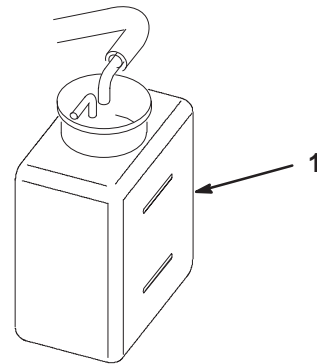

Figure 20
2. Check the coolant level (Fig. 20). It should be between the lines on the reserve tank when the engine is cold.